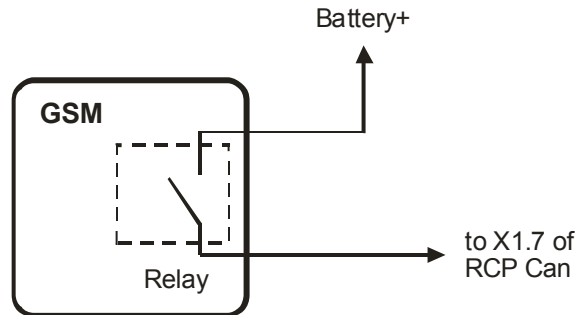

Figure 8
- Some GSM modules can control an additional device through the inner relay. They may be connected to RCP Can by the scheme at the fig.8